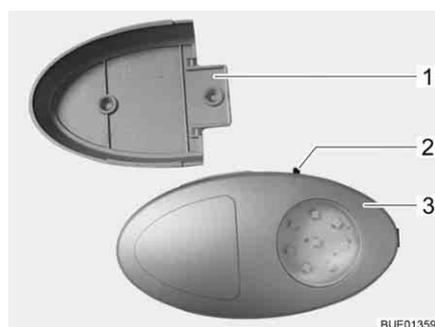

Fig. 61 Wardrobe light
- ▷ The wardrobe light can be removed from its holder (Fig. 61, 1) and used as a torch.
The On/Off switch (Fig. 61, 2) is located directly on the wardrobe light (Fig. 61, 3).